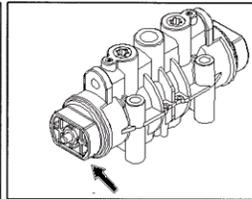

Fig. 7.2B
- PP motor: Remove the cap A with adjustable spanner. Remove packing and pull out the C spool valve assembly. [Fig. 7.2B]